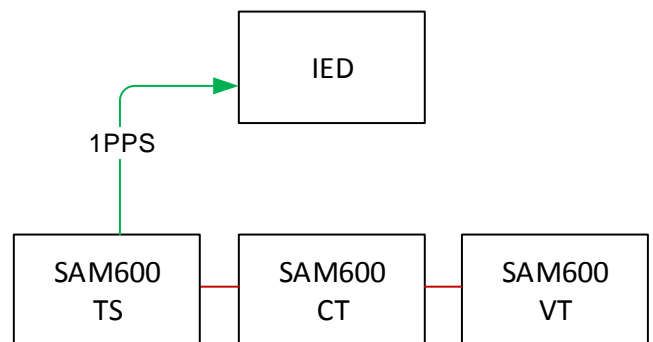

Figure 4. SAM600 free-running
- *Free-running* – A SAM600 system can operate in a free-running mode (see Figure 4) with no external time synchronization. The SAM600 system itself synchronizes internally by means of IEEE 1588 in order to ensure synchronous sampling of the analog data.